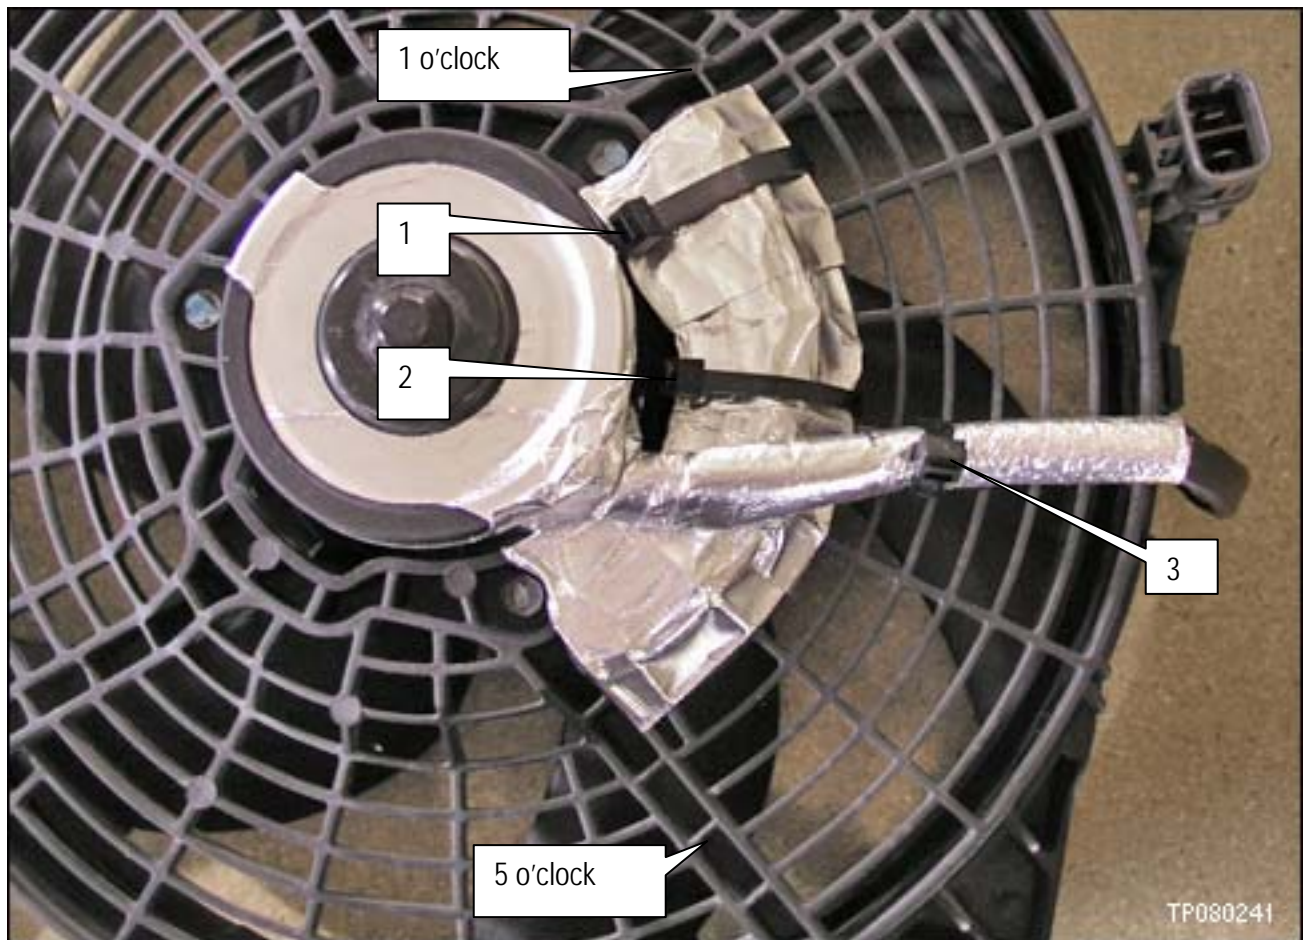

Figure D-17
14. Attach 3 tie-wraps as shown in Figure D-17.